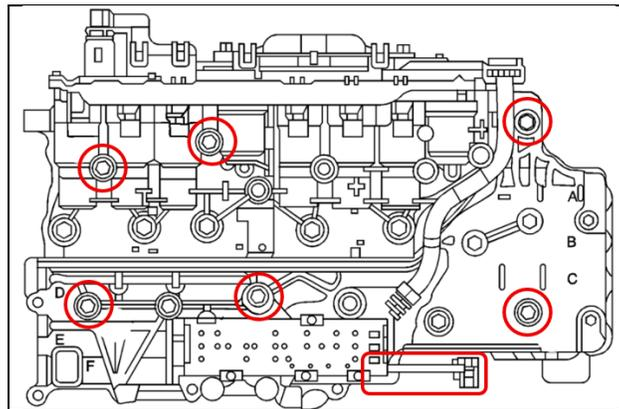

Figure 6
9. Using DT-48285 Torx Plus Socket, remove the six (6) bolts securing the valve body to the transmission assembly. See Figure 6.